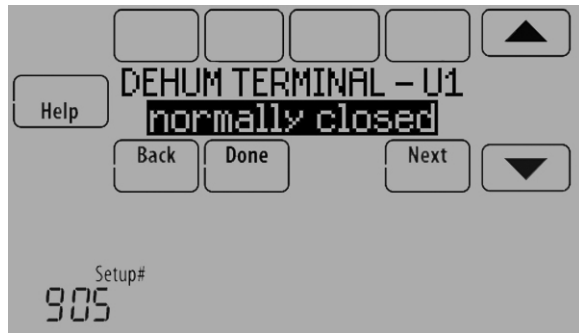

Fig. 214.
5. Select whether the U1, U2, or U3 terminals are Normally Open or Normally Closed. See Fig. 214.